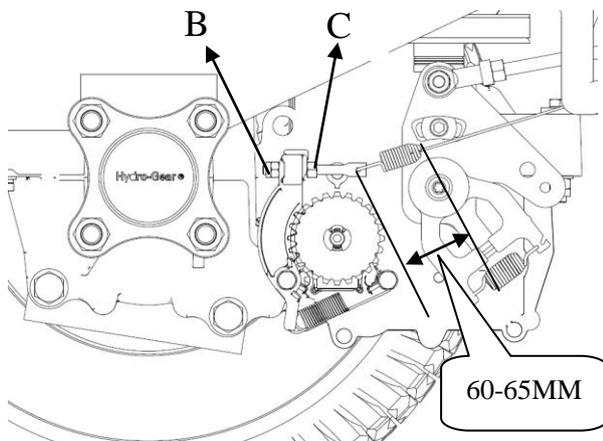

Figure 23
7.7.2 Locate the brake spring (A, Figure 23).
7.7.4 If the spring is not within this range, release the parking brake and turn the adjustment nut (B and C, Figure 23) to compress or release the spring.